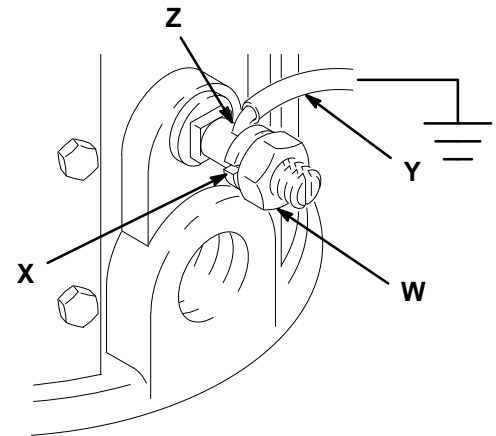

Fig. 1
1. *Pump*: use a ground wire and clamp as shown in Fig. 1.